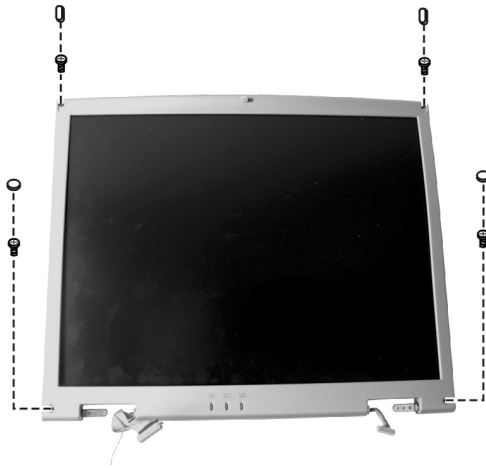

Figure 2-20 Remove LCD cover
2. Remove the four rubber pads and four screws on the lower part of the panel. (figure 2-20)